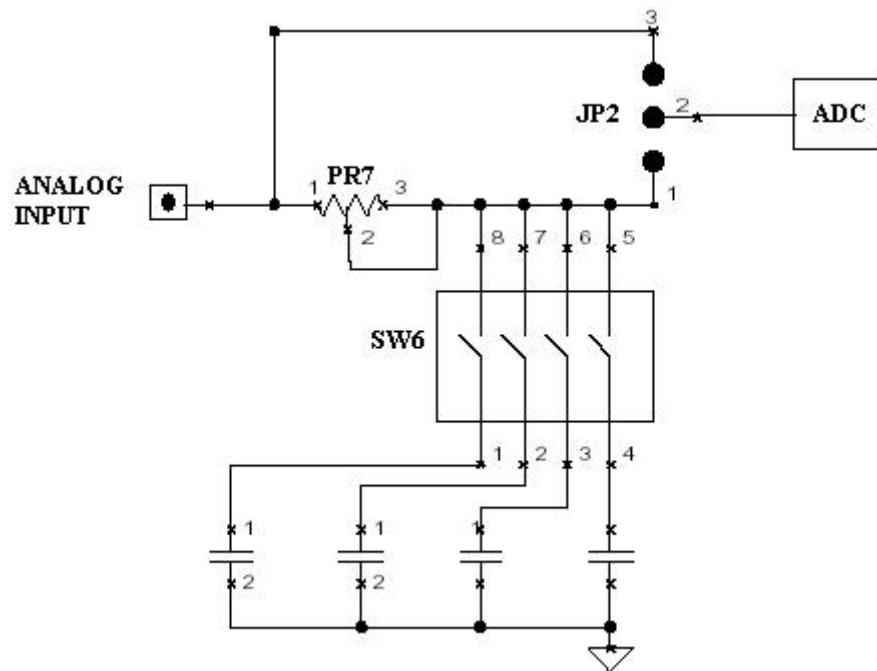

Figure 4 : Anti- Aliasing Filter
- In-Channel 4 takes an external analog input from the PUT terminal, user has the option of cascading the onboard **Anti-Aliasing Filter** (a low pass Analog filter) to his input. Figure 4 shows Anti Aliasing Filter